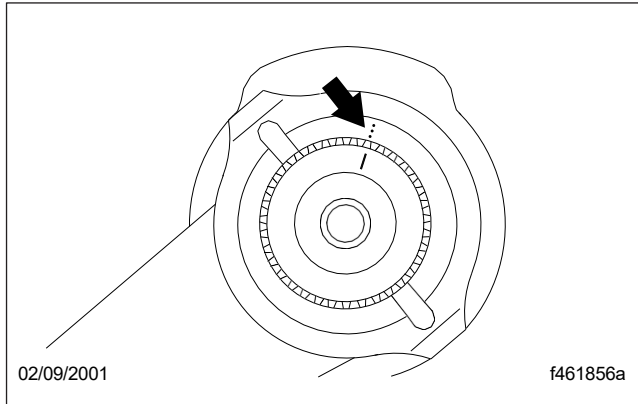
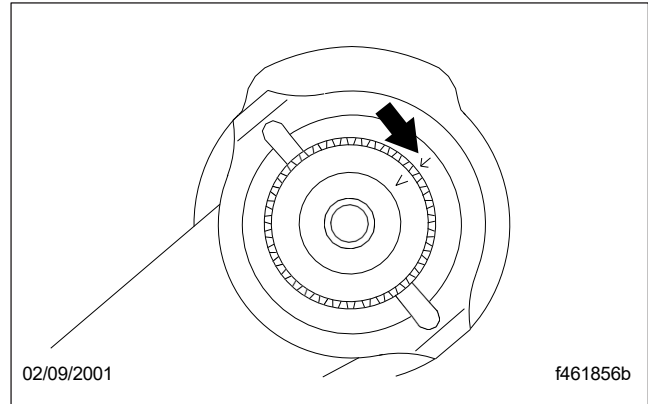

Fig. 11, Aligning the Timing Marks
Fig. 12, Aligning the Timing Marks
21. Align the timing marks on the pitman arm with the timing marks on the sector shaft, then install the pitman arm on the sector shaft. The timing marks will appear as shown in Fig. 11 and Fig. 12.